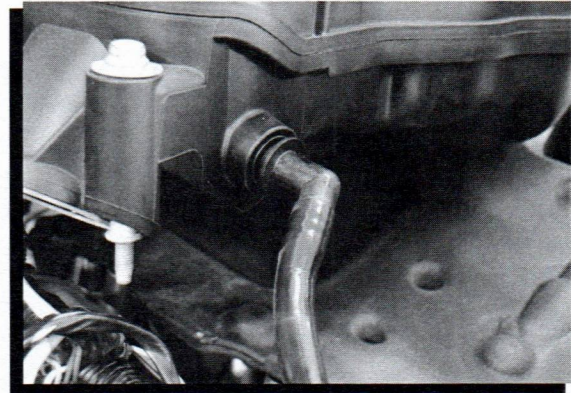

Figure 6 Brake Booster Vacuum Connection.
6. With the intake bolts fully loosened, the OEM manifold assembly will need to be lifted up and moved forward. Note that at this time the brake booster vacuum tube is still attached. Move the intake forward and position the vacuum tube where you have access to it (Figure 6).